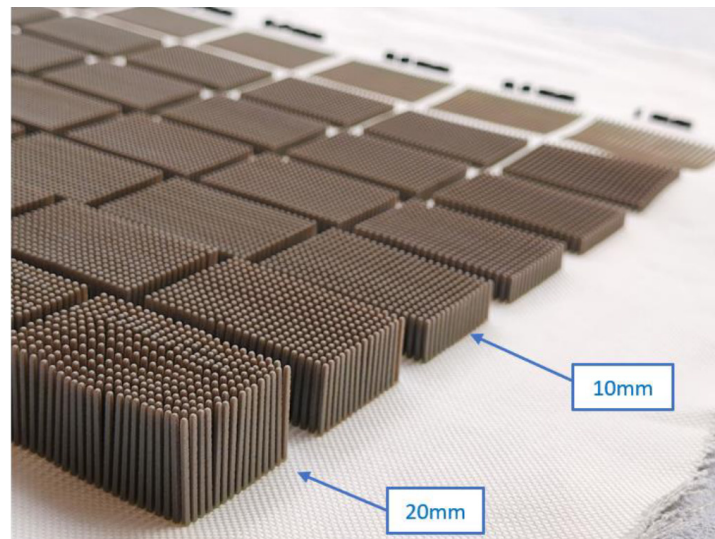
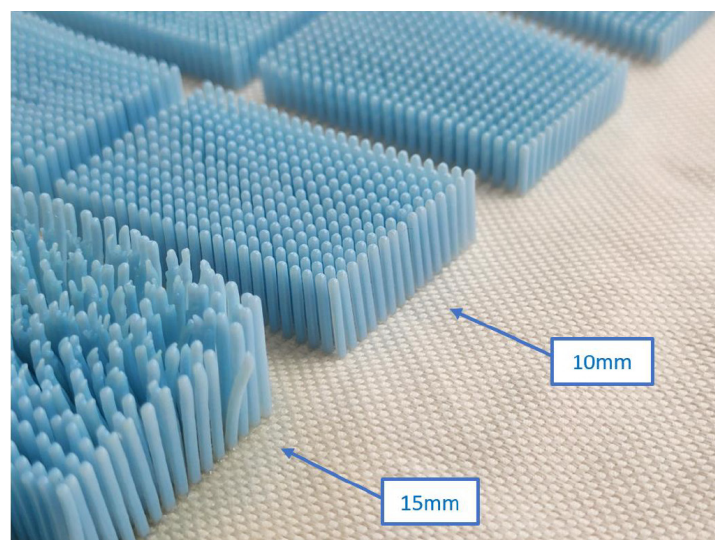

Figure 9: Rigid pins, different heights—Left, 20 mm not good; Right, 10 mm better
Figure 10: Flexible pins, different heights—Left, 15 mm not good; Right, 10 mm better
- For thin parts (*segmented* parts or pins that are narrower than 2 mm)—Ensure that the maximum height of elements printed with: rigid material is 20 mm (Figure 9) and flexible material is 10–15 mm (Figure 10).